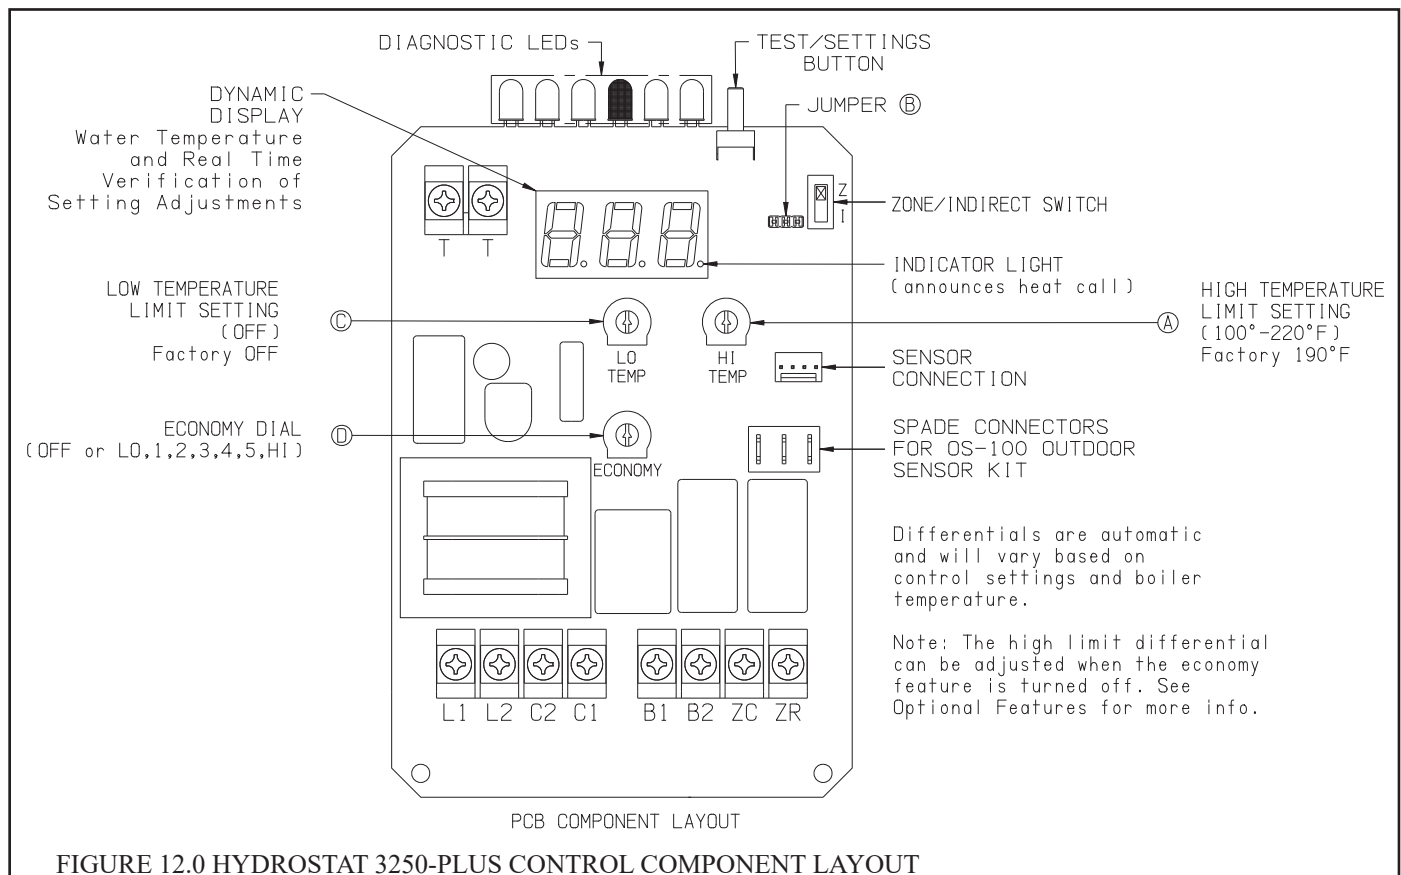

FIGURE 12.0 HYDROSTAT 3250-PLUS CONTROL COMPONENT LAYOUT
- 1) Setting the High Limit - The high limit is factory set at 190°F. To adjust, turn the HI TEMP dial **A** until the desired setting is displayed. (Setting range: 100°-220°F) See Figure 12.0.
- 3) Setting the Economy Feature - The Economy Feature is factory set for a 1 zone heating system. To adjust, turn the ECONOMY Dial **D** until the number displayed equals the number of heating zones. Do not include indirect water heaters in the number of heating zones. The Economy Feature conserves fuel by analyzing thermostat activity and continually evaluating how much heat the house requires. When it is very cold outside, the heat demand is high and the control will raise the boiler's target temperature to provide needed heat to the home. When the outside temperature is milder, the heat demand is lower. During these periods, the control will lower the boiler's target temperature – saving fuel – while continuing to provide comfort to the house. If the heating system is unable to supply needed heat to the house, the ECONOMY Dial should be turned to a lower setting (example: In a three zone house, turn the dial to 2 or 1). Conversely, if the boiler provides adequate heat, added fuel savings can be achieved by selecting a higher setting (example: 4 or 5). If the heating and indirect water heater signals were not separated when wiring the control, the Economy Feature should be turned OFF to ensure the boiler supplies adequate temperature to heat the indirect tank. See Figure 12.0 & Table 12.1.